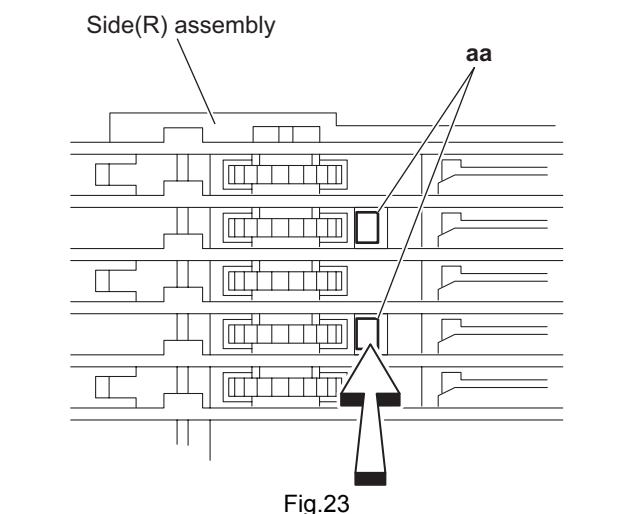

Fig.23
3.2.12 Removing the side (R) assembly (See Fig.23 to 27)
- (1) From the inside of the side (R) assembly, release the two tabs **aa** of the gear cover and remove the gear cover outward. (See Figs.23 and 24.)